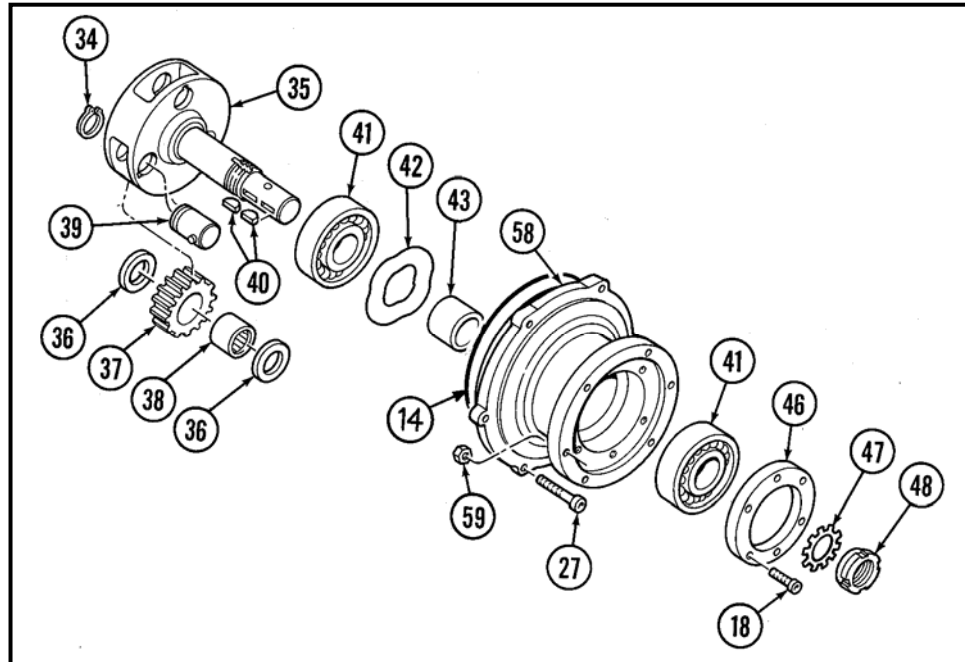

Figure 4. Gearbox Housing Assembly (T112B/T121B/T109P/T115P)
The gearbox housing assembly, refer to figures 4, consist of a planet gear carrier and output shaft (35), three planet gears (37), needle bearings (38), spacers (36), and bearing pins (39).